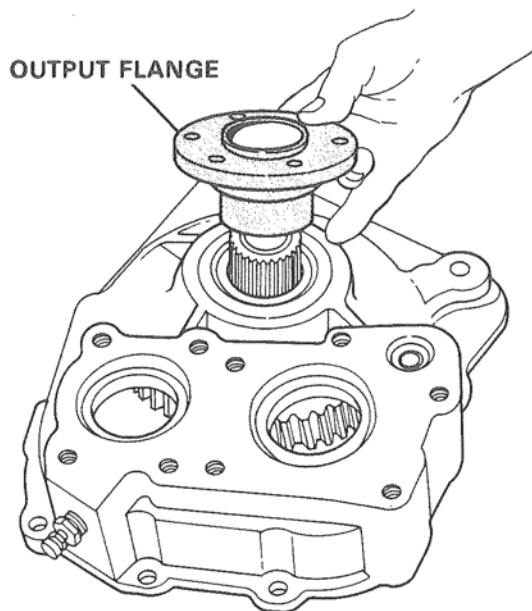

Figure 19. Removing Output Flange.
2. Use a puller, and remove the output flange from the output shaft. Figure 19.